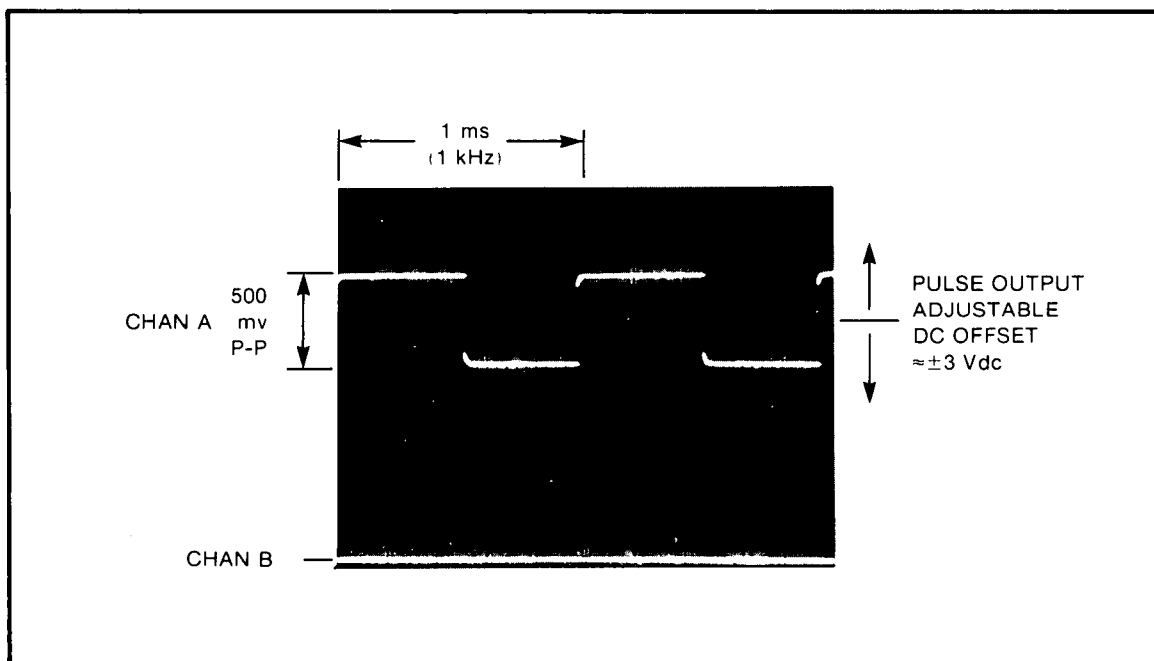

Figure 5-2. Pulse Generator Output
- e. Set the pulse generator to output a square wave, ~500 mV p-p, at a 1 kHz rate. Adjust the leading and trailing edge controls for the fastest possible transition times, i.e., an "ideal" square wave. Set the pulse generator output dc offset to the adjustable mode. See Figure 5-2. If an HP 8007B is available, set the controls as follows: